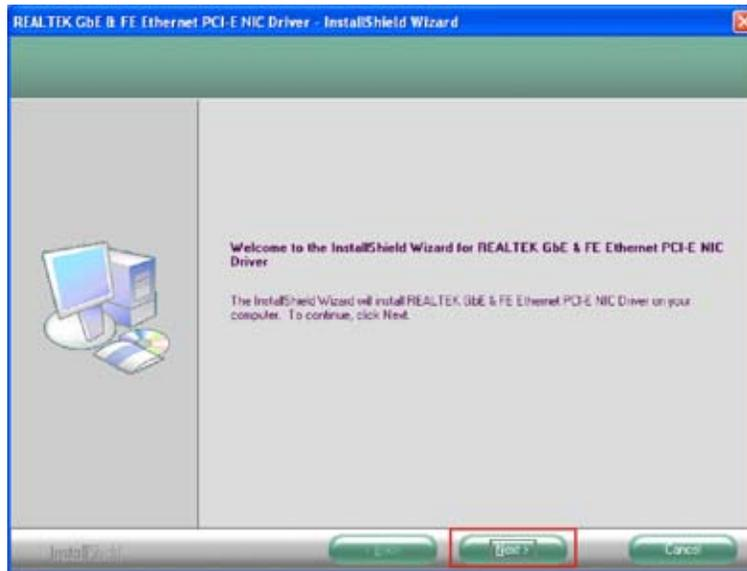

Figure 6-16: LAN Driver Welcome Screen
Step 38: The **Welcome** screen in Figure 6-16 appears.